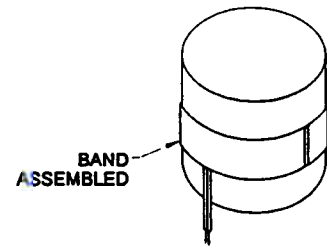

Figure 3
3. Carefully remove the protective backing from the longer adhesive area of the band. Wrap the band tightly around the heater and cylinder, overlapping the long adhesive end as necessary. See Figure 3. Firmly press adhesive areas of the band to insure proper bonding.